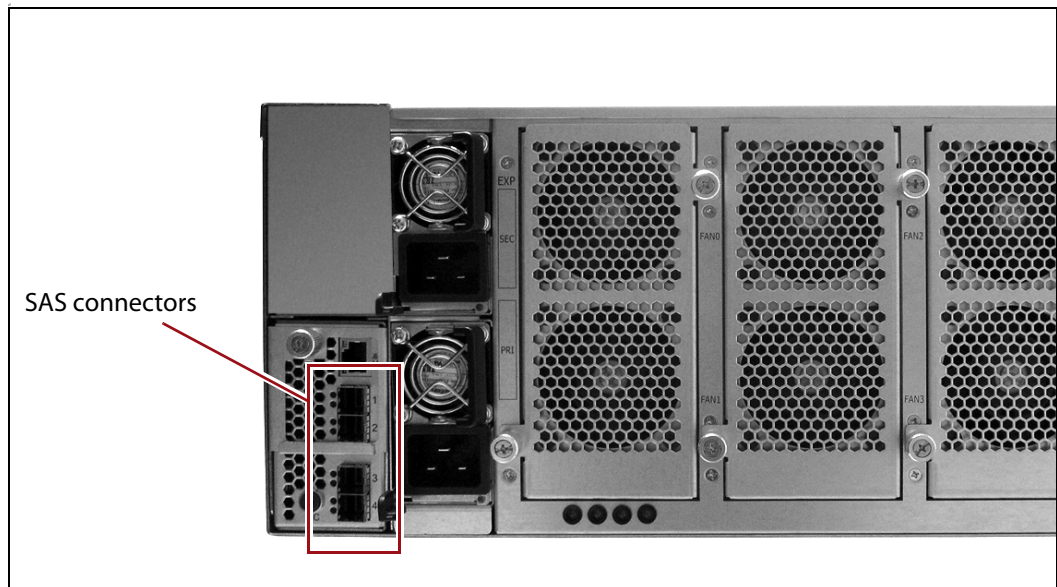

Figure 4 The SAS connectors on a 107-drive disk solution.
6. Connect the cable to one of the SAS ports on the 107-drive disk solution (see Figure 4).